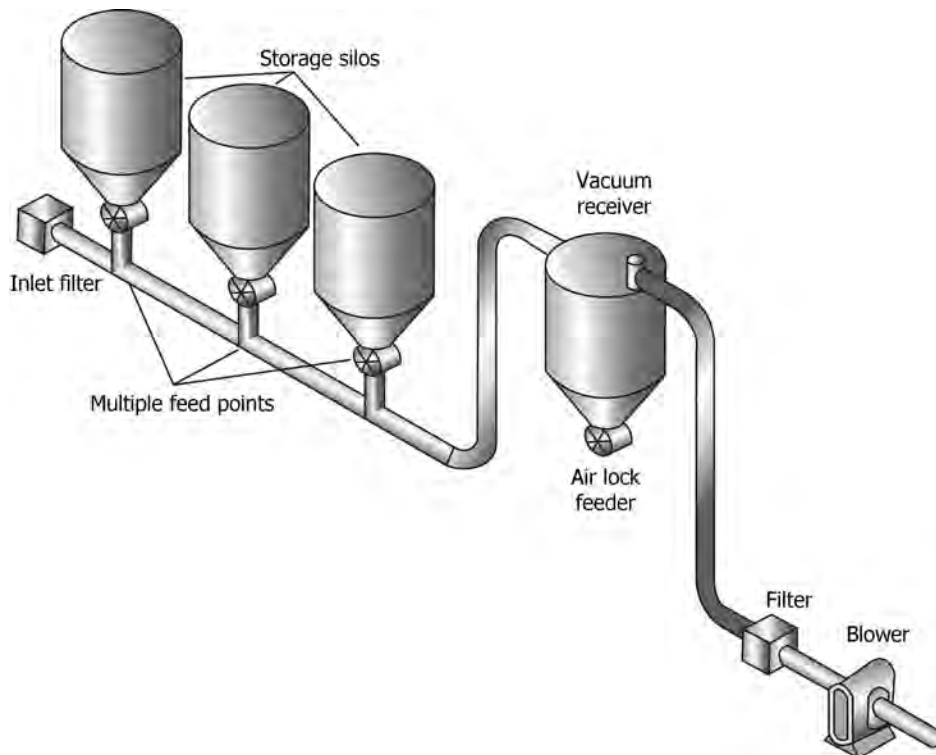

FIGURE 7.14 Pneumatic conveyance: negative system.
- When conveying solids from several pickup points as illustrated in Figure 7.14.